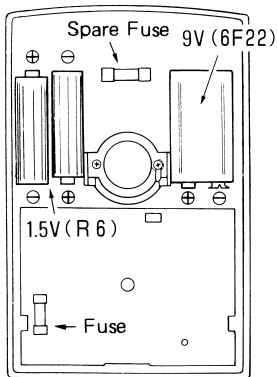

Fig. 16
2. When the fuse is blown, the tester fails to work. Replace it with the spare fuse (5mm dia  $\times$  20mm, 500mA/250V). Refer to Fig. 16 for its position.